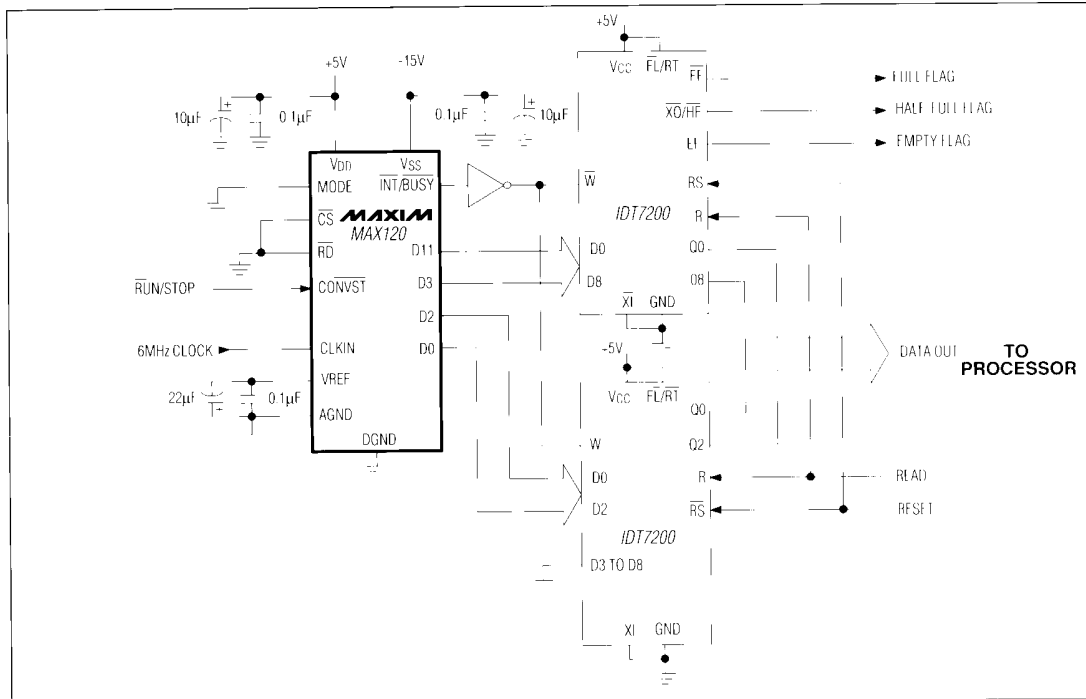

Figure 13. Using MAX120 with FIFO Memory
Using FIFO memory to buffer blocks of data from the MAX120 reduces μP interrupt overhead time by enabling the μP to process data while the MAX120, unassisted, writes conversion results to the FIFO. To retrieve a block of data, the μP reads from the FIFO via a read-interrupt cycle. Read and write operations for the FIFO are completely asynchronous. Figure 13 shows the MAX120 operating in continuous-conversion mode (mode 5), writing data directly into the two IDT7200 256 x 9 FIFO buffers at the rate of 428ksp/s. The μP is interrupted to read the accumulated data by the FIFO's half-full (HF) flag approximately three times per millisecond. For operation at 500ksp/s, use an 8MHz clock, and pulse $\overline{\text{CONVST}}$ at 500kHz. The full flag (FF) indicates that the FIFO is full. If this flag is ignored, data may be lost. If necessary, conversions can be inhibited by pulling $\overline{\text{CS}}$, $\overline{\text{RD}}$, or CONVST high. The FIFO's read cycle times are as fast as 15ns, satisfying most system speed requirements. The $\overline{\text{RESET}}$ input resets all data in the FIFO to zero.